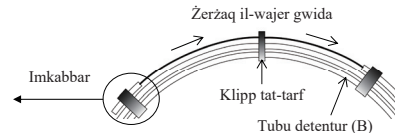

Figura 1
distali tal-wajer gwida minn ġot-tubu detentur (B). (Figura 1)